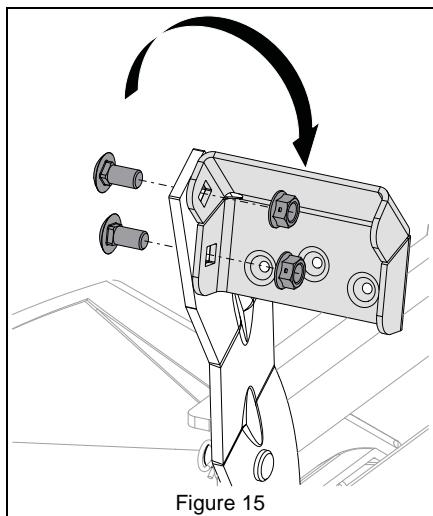

Figure 15
2. Rotate pedal as shown in Figure 15 and secure to unit with hardware removed in step 1.